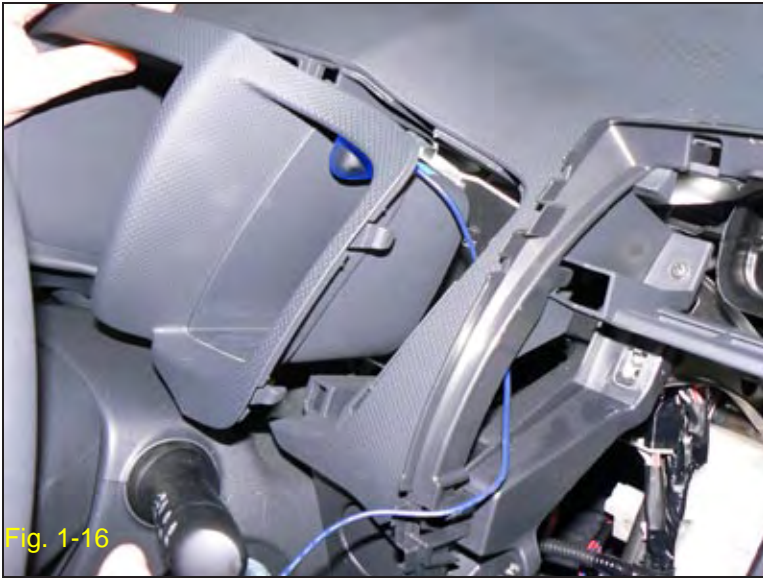

Fig. 1-16
b. Route the microphone wire towards the interface module (Fig 1-16).